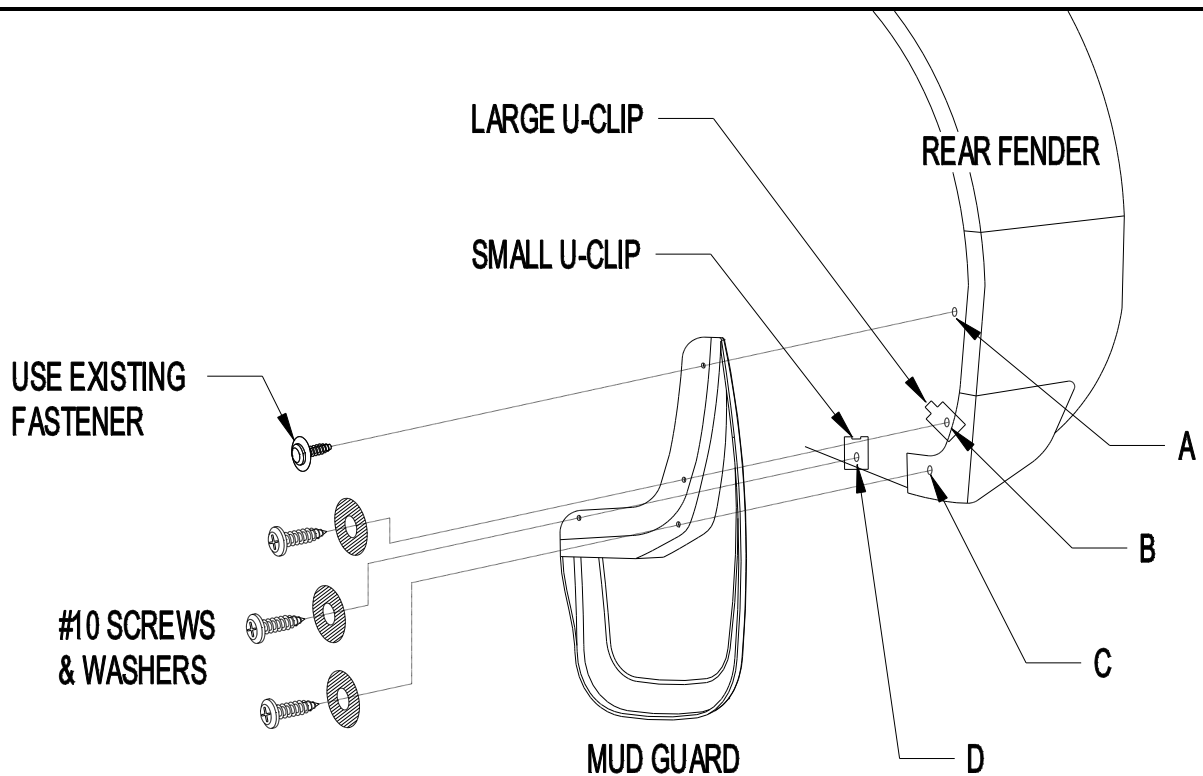

Figure 1
1. Remove the existing fasteners from locations A and B (Figure 1).
5. Install a #10 Screw and Fender Washer at location C (Figure 1).